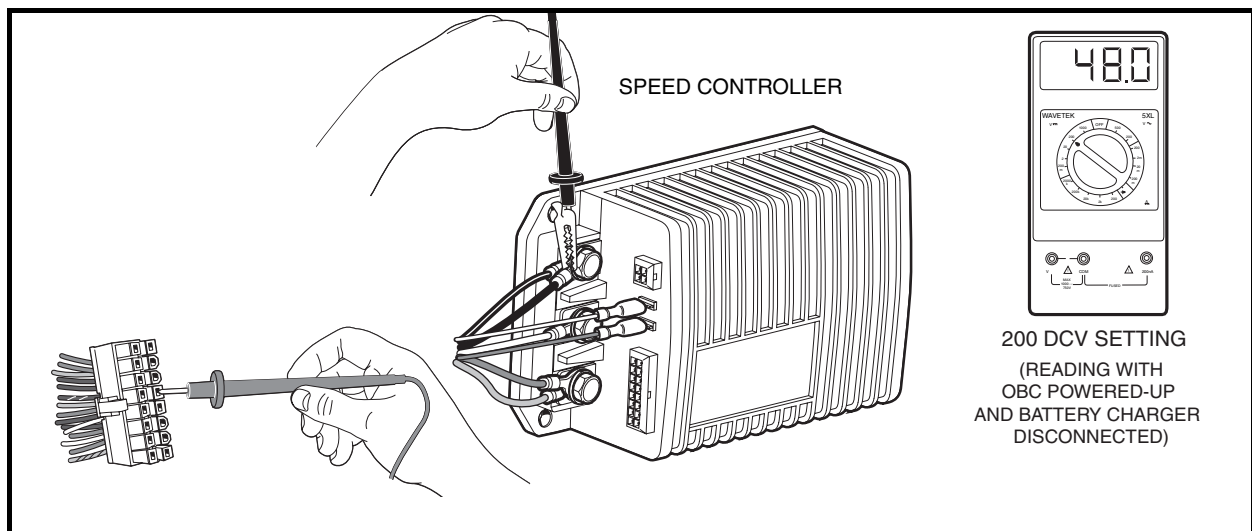

Figure 21-6 Pin 5 Test
4. Set a multimeter to 200 volts DC. Insert the red (+) probe of the multimeter into pin 5 (light blue wire) of the 16-pin connector. See following **CAUTION.** Using an alligator clip, connect the black (–) probe to the B– terminal of the speed controller (**Figure 21-6, Page 21-20**).